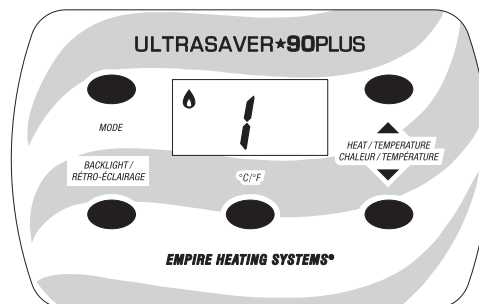

Figure 61
4. After 20 seconds, the gas valve will open and the burner will ignite on high. The flame sensor will verify the flame is present within six seconds and the green light on the control board will illuminate. The flame icon will display in the top left corner of the display panel once the controls verify the flame presence. **See Figure 61.**